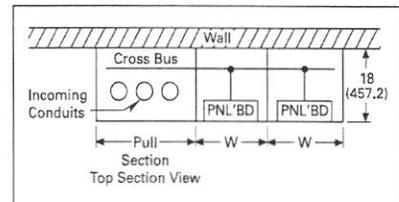

Figure 21.1-7. Section Plan View
2. With a bussed auxiliary structure for incoming cable per Figure 21.1-7.